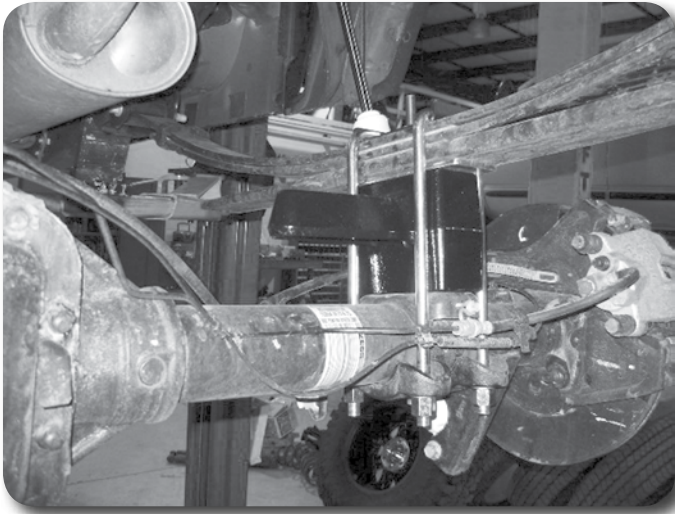

Figure 44
87. Raise the axle/block to the spring while aligning the center pin. Fasten the spring/block assembly with the provided u-bolts, high nuts and washers. Snug u-bolts, they will be torque with the weight of the vehicle on the springs. **Figure 44**